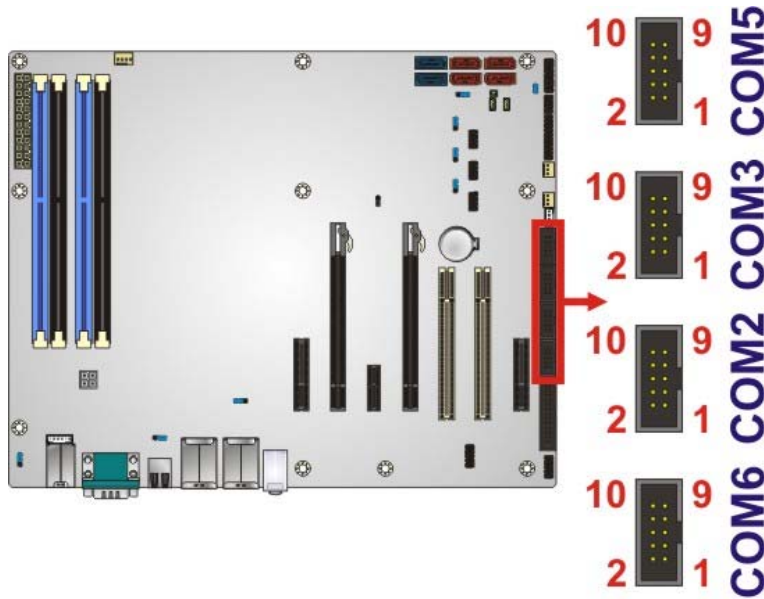

Figure 3-24: Serial Port Connector Locations
- CN Location:** See Figure 3-24